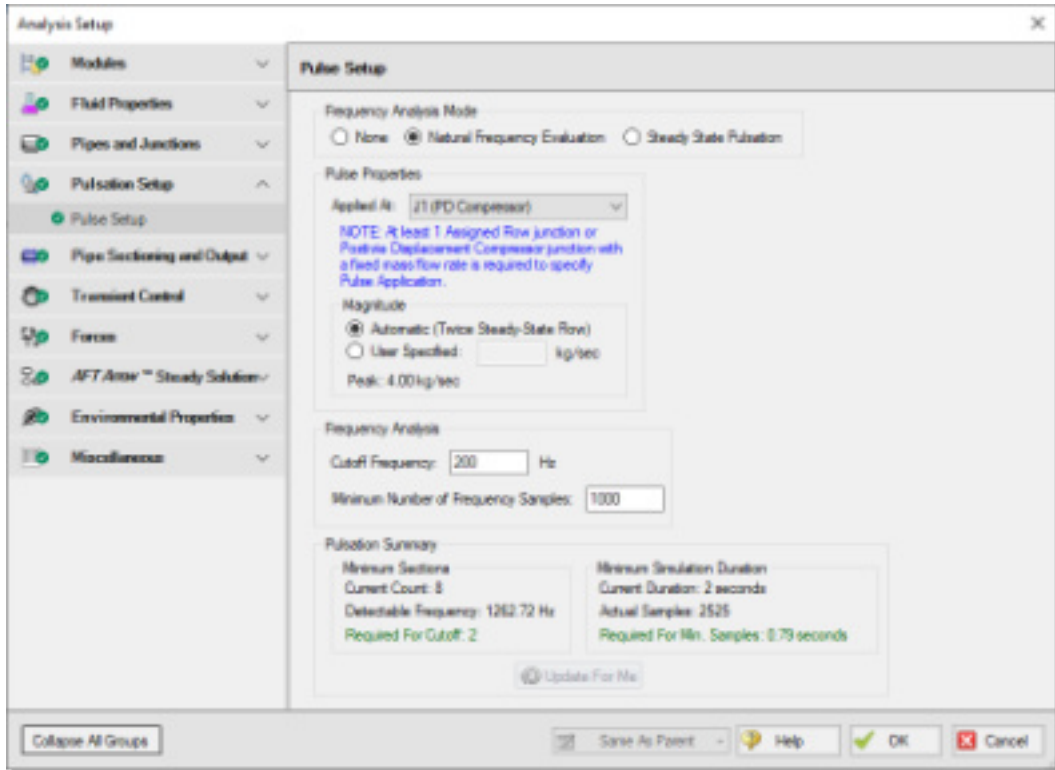

Figure 6.2 Pulse Setup panel in the Analysis Setup window with all pulsation settings defined
- **Define the Pulsation inputs** as follows (Figure 6.2):